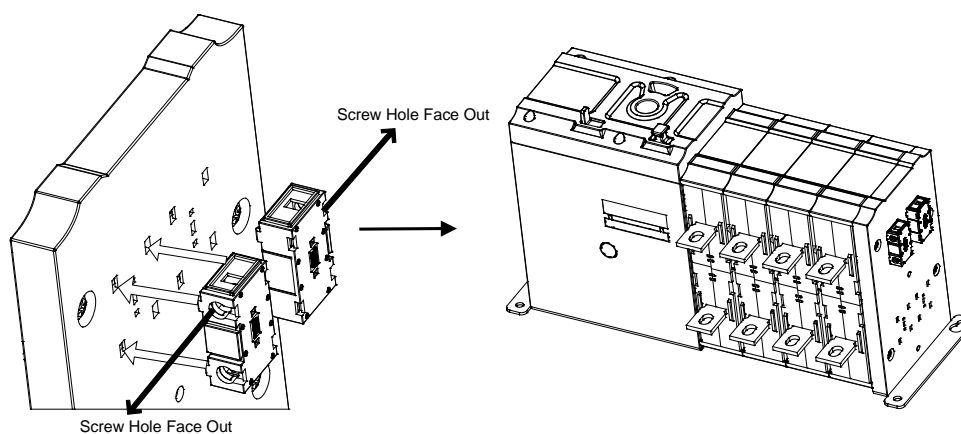

Figure 2-7 Auxiliary Contact Installation to Side Plate
1. With the auxiliary contact screw holes facing outward, snap the 4 claws into the corresponding 4 holes on the transfer switch side plate, and then force it into position, as shown in Figure 2-7.